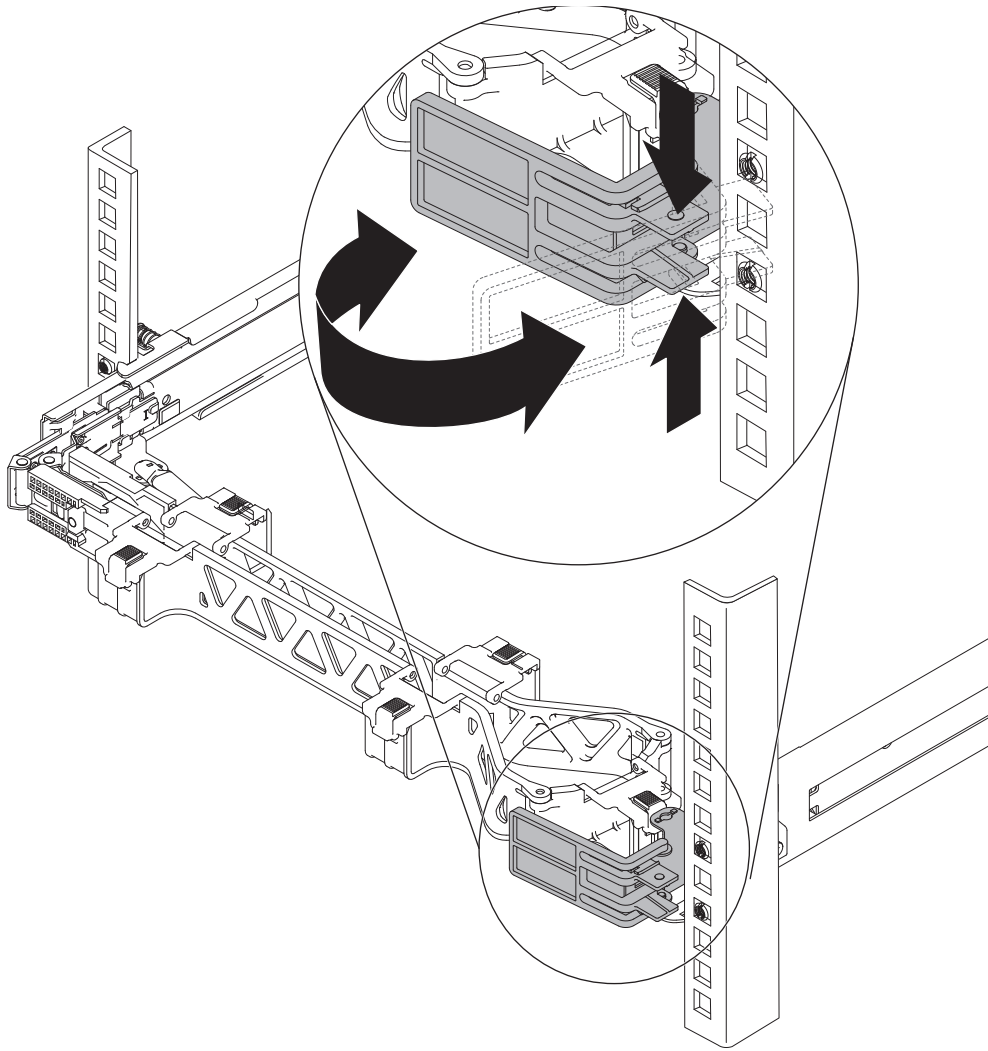

Figure 12. Opening the cable-management support stop
5. Open the cable-management support stop, as shown in Figure 12 on page 27.